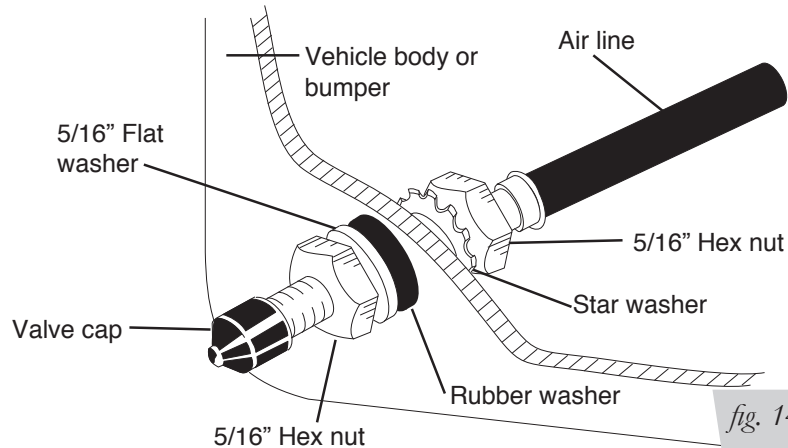

fig. 14
4. Place a 5/16" nut and star washer on the air valve. Leave enough of the inflation valve in front of the nut to extend through the hole and have room for the rubber washer, flat washer, and 5/16" nut and cap. There should be enough valve exposed after installation—approximately 1/2"— to easily apply a pressure gauge or an air chuck (Fig. 14).